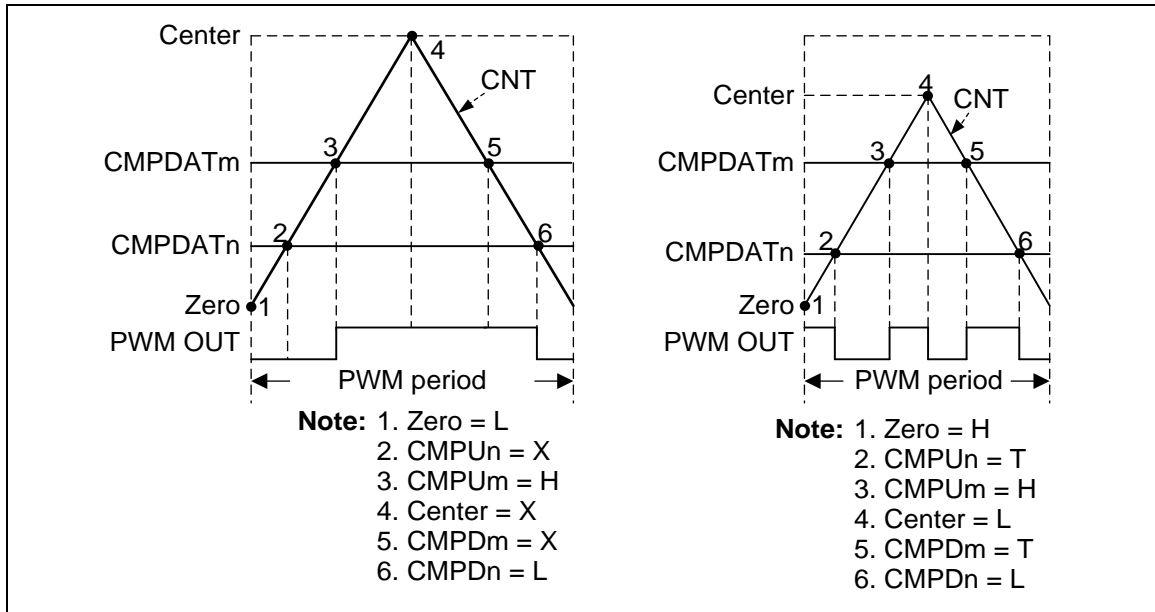

Figure 6.9-17 PWM Pulse Generation
Each event point can decide PWM waveform to do nothing (X), set Low (L), set High (H) or toggle (T) by setting the PWM\_WGCTL0 and PWM\_WGCTL1 registers. Using these points can easily generate asymmetric PWM pulse or variant waveform as shown in Figure 6.9-17. In the figure, PWM is in complementary mode, there are two comparators n and m to generate PWM pulse. n denotes even channel number 0, 2, or 4, and m denotes odd channel number 1, 3, or 5. n channel and m channel are complementary paired. Complementary mode uses two channels (CH0 and CH1, CH2 and CH3, or CH4 and CH5) as a pair of PWM outputs to generate complement paired waveforms. CMPU denotes CNT is equal to CMPDAT when counting up. CMPD denotes CNT is equal to CMPDAT when counting down.